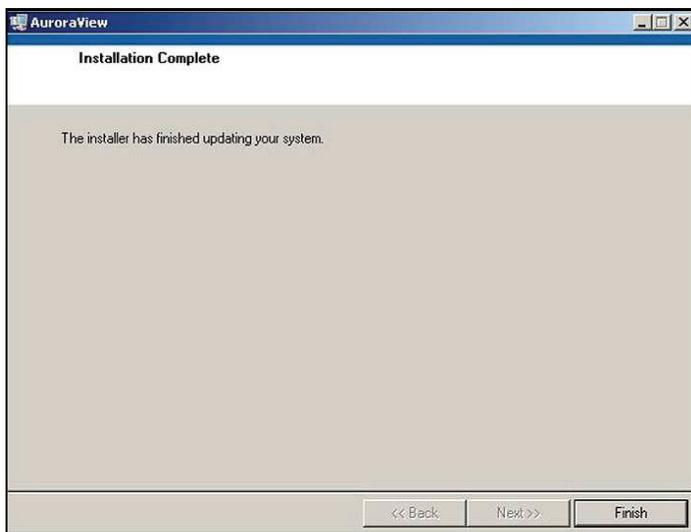

Figure 27: Installation is complete
- The screen shown in *Figure 27* below appears when the installation is complete.